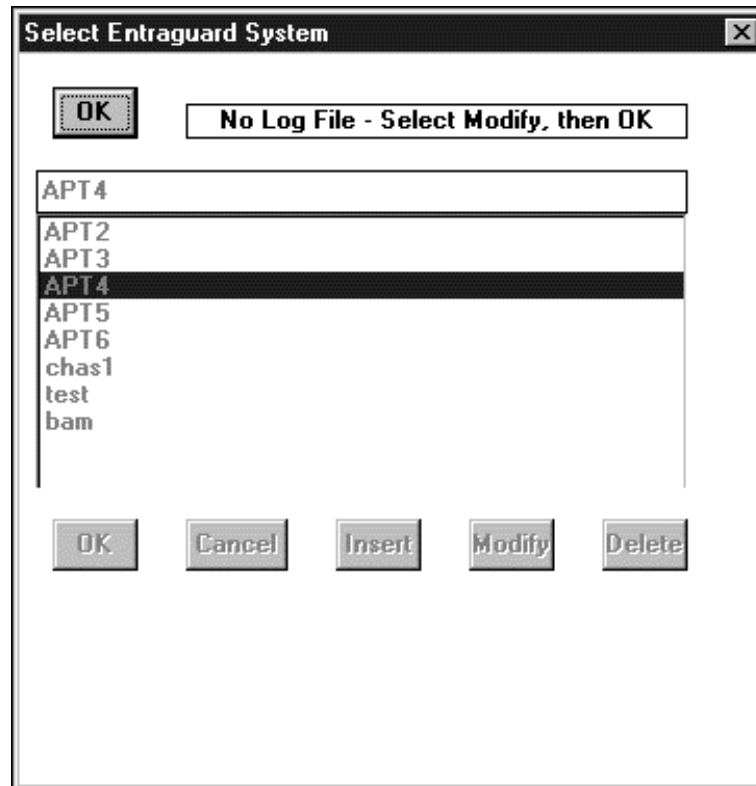

Figure 5.5.1b
c) If the selected system does not contain a log file, the following message (Figure 5.5.1b) will be displayed: